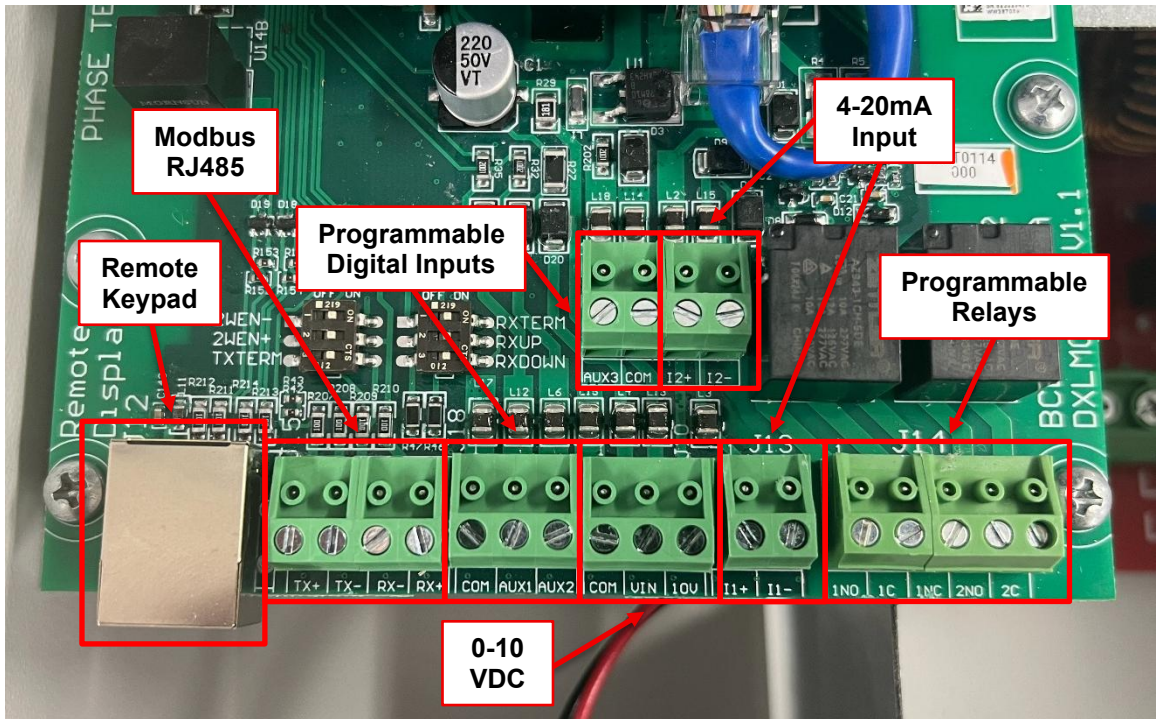

Figure 8 – Control Terminals
- Customer terminals are located on the Control Board of each drive. **Figure 8** shows where the Control Terminals are located on the Control Board for each system. See **Table 6** for information on the function of control terminals.